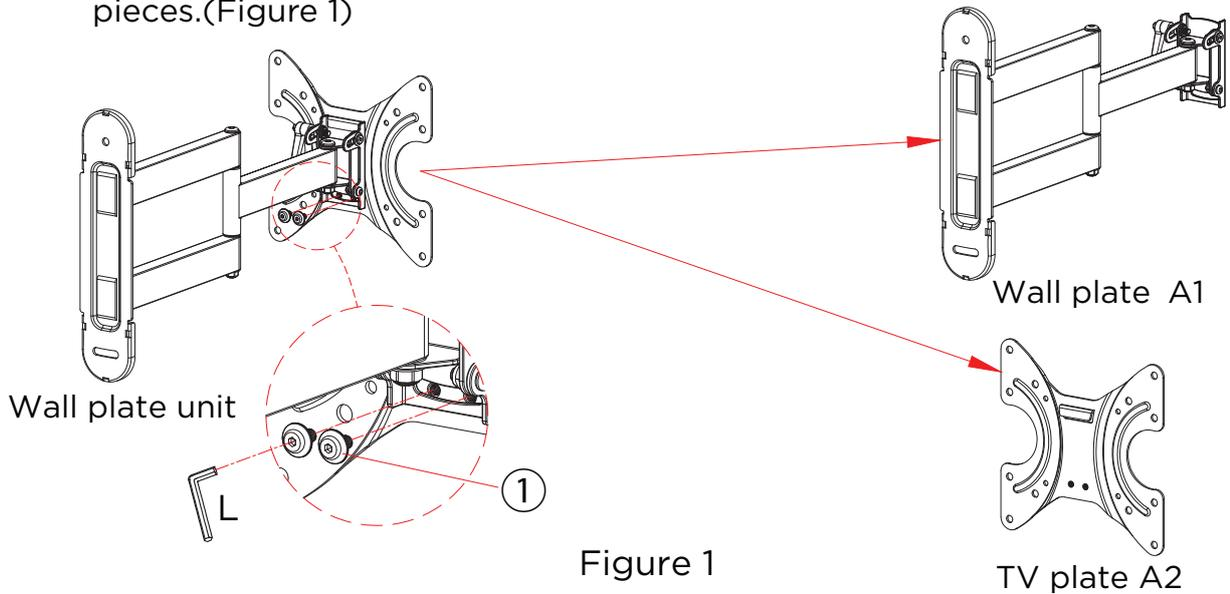

Figure 1
**Step 1:** Remove the bolts ① with Allen key (L) to separate wall plate unit (A) into two pieces.(Figure 1)